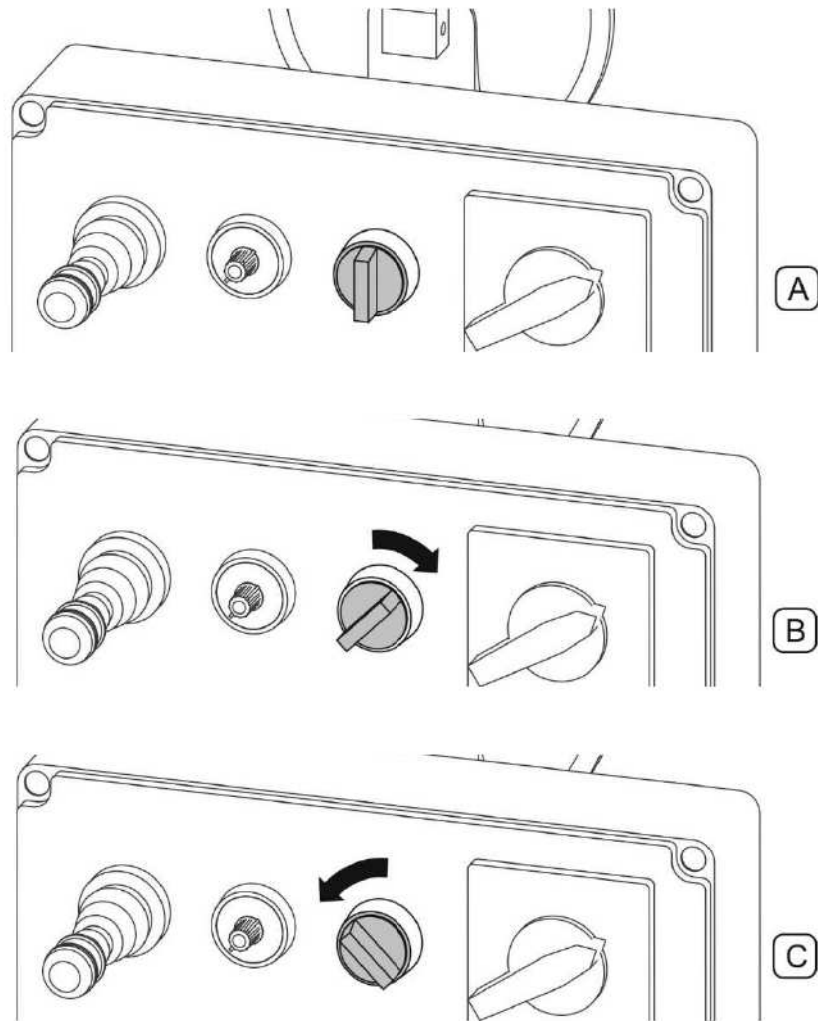
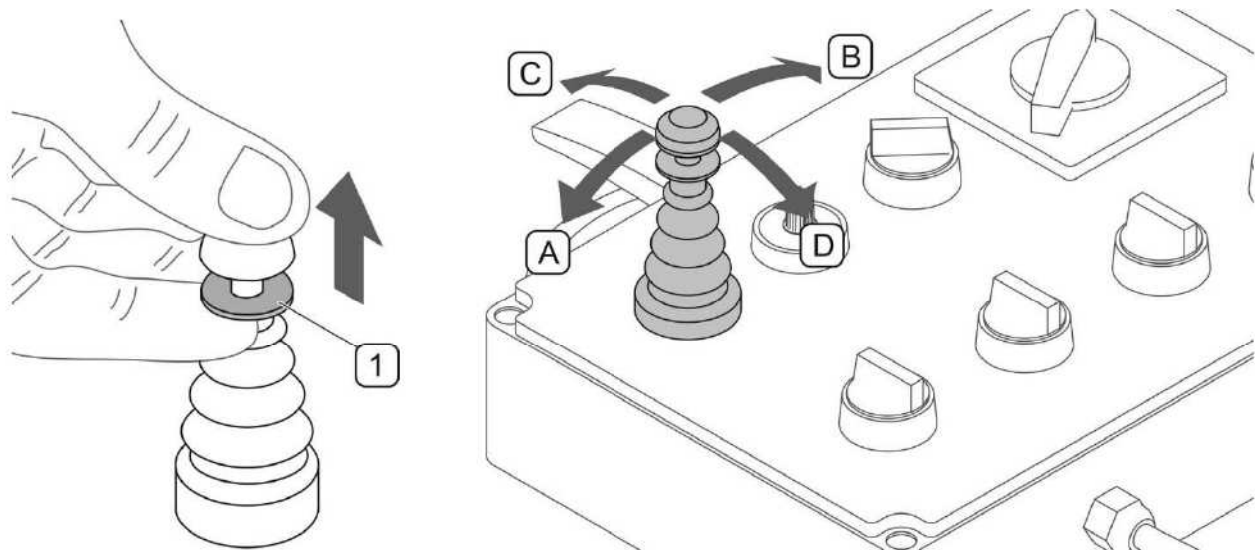

FIG. 4.10 Sweep unit switch
FIG. 4.13 Control of waste tank raising and emptying
The sweep unit is switched on, switched off and raised using three-range switch (FIG. 4.10). When the switch is shifted to the left (C) ("sweeping"), the sweep unit is lowered to working position and the brush drive is switched on. To switch the brush drive off, shift the switch back to position (A). To raise the sweep unit, shift the switch to the right to position (B) ("raising") and hold it in this position. The switch does not have a lock in position (B) ("raising"). When released, the switch returns to position (A) ("switched off").
(1) - lock ring of the multifunction lever; (A) - closing the waste tank; (B) - opening the waste tank; (C) - raising the tank; (D) - lowering the tank;
Raising and lowering as well as opening and closing of the waste tank should be performed when the sweep function is off (FIG. 4.10). Opening, closing, raising and lowering of the waste tank is controlled from the driver's position by means of multifunction lever (FIG. 4.13). In its neutral position, the lever is locked in order to prevent accidental activation. To release the lock, pull up the ring (1) located under the handle on the lever shank.